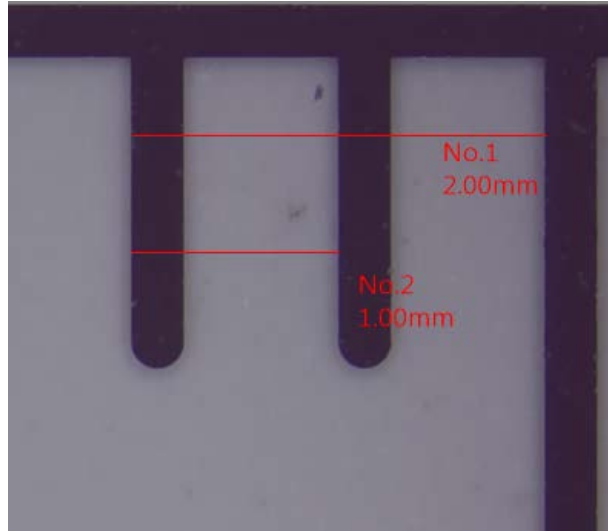

Fig. 5-38 Multi-Line measurement
(21) Erase All : Whenever to delete all of measuring data at one time, that can apply  tool.
(22) Multi-Line : Whenever to multiple measuring that can apply  tool, i.e. measure several items on one picture. See Fig. 5-38 shown